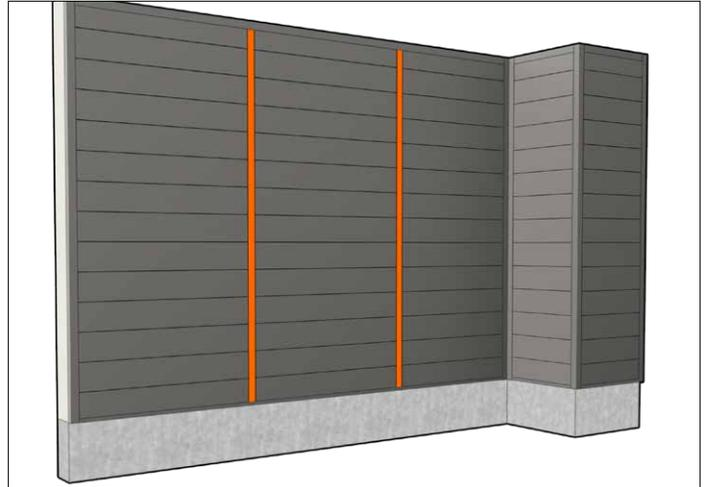

Figure 18.4
15. They are also used at shorter distances to create different design aesthetics (mid-wall vertical is also used to create different design aesthetics). (Figure 18.4)